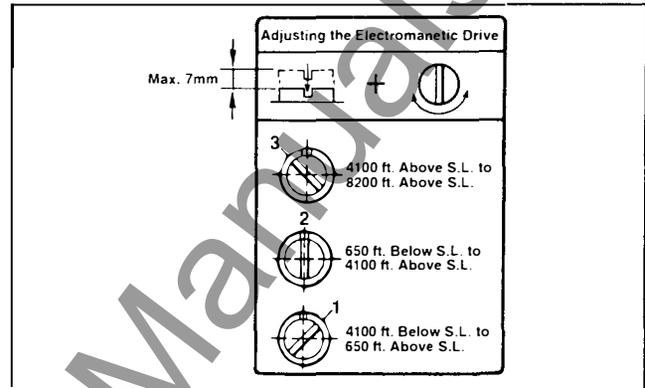

Figure 5. Altitude Adjustment Information Plate
- Adjust each setting plug to the site altitude according to the instruction plate. See **Figure 5**.